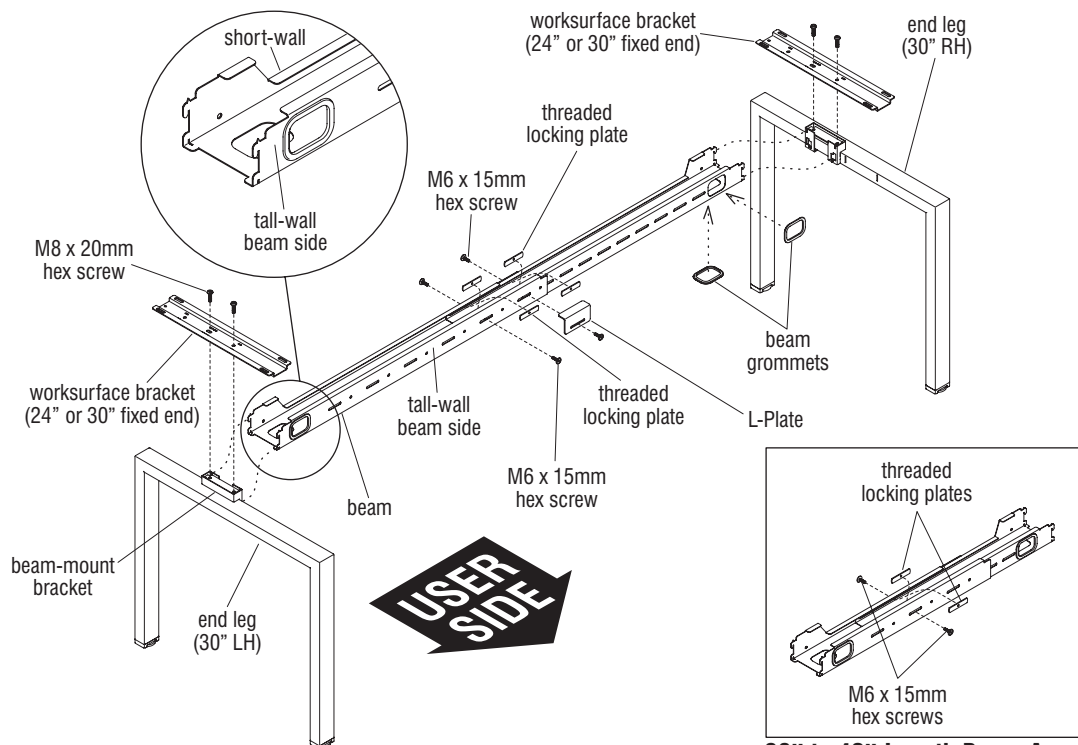
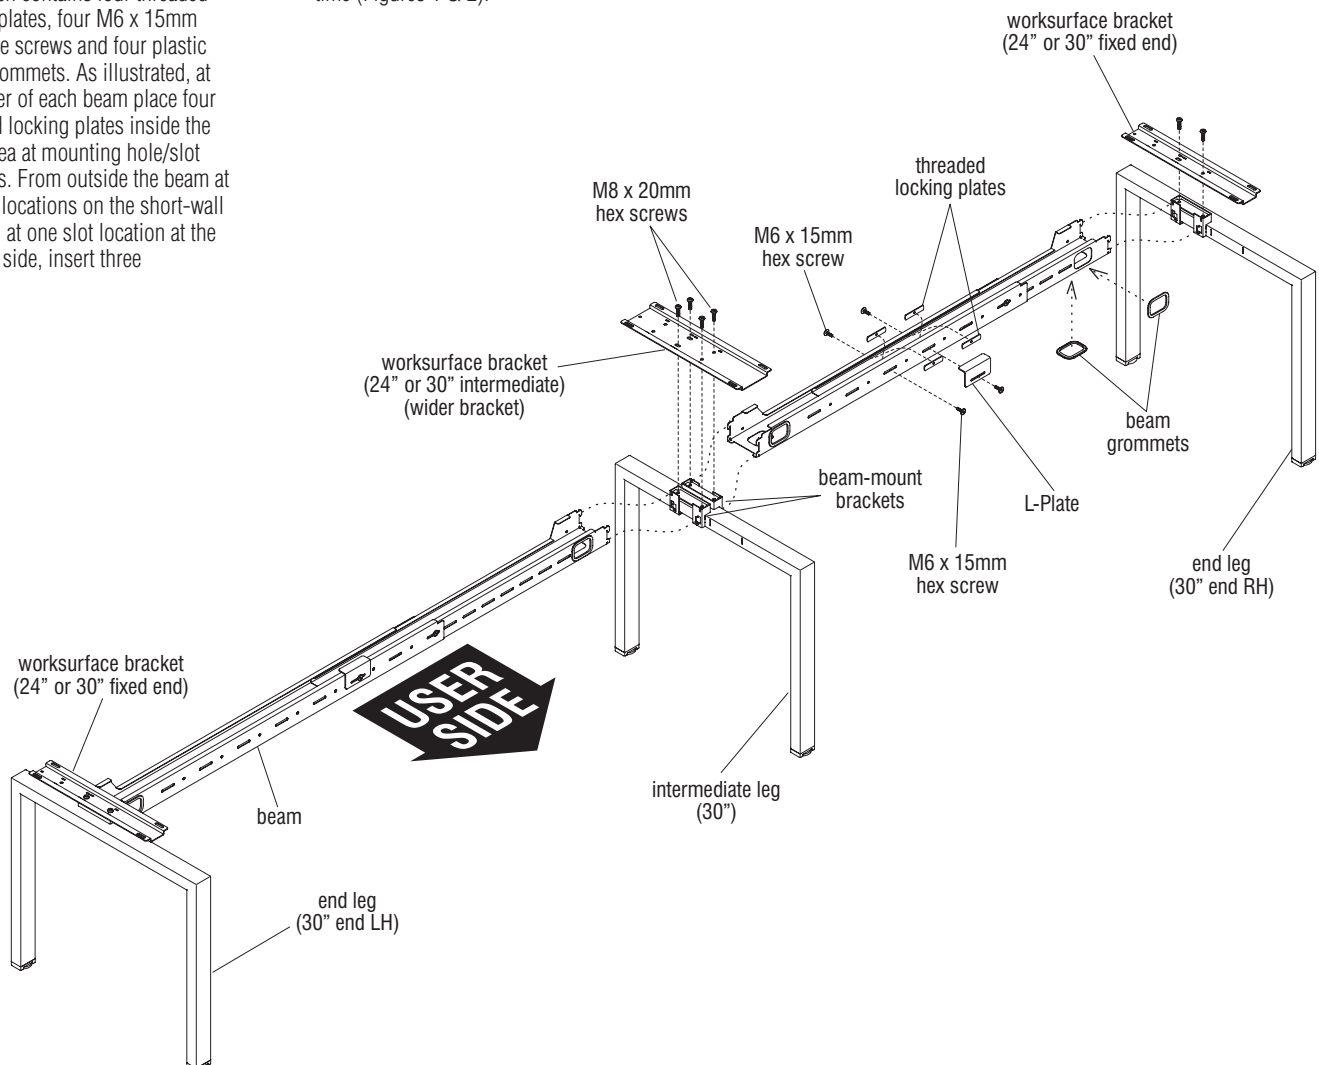

Figure 1 - Single-Sided Fixed Benching End Legs & Beams
Figure 2 - Single-Sided Fixed Benching, Multiple Worksurface "Adder" Legs & Beams
1. Carefully unpack Connection Zone components, review the space-planning layout and study Figures 1 & 2 to identify parts to assemble. Position all legs and beams onto the floor per the space-planning layout (Figures 1 & 2).
Note: Legs for 24" table depths (not shown) are non-handed, so can be used on either the right- or left-hand side. Legs for 30" table depths (right- & left-hand specific) will have off-center beam-mount brackets at the horizontal top. The longer horizontal member must be positioned toward the user side, as does each beam's tall-wall side (Figure 1).
hard-rubber mallet, tap down on the vertical wall at the mounting end of the beam until you hear the beam bottom-out, so it is properly nested in the support leg mounting bracket (do not hammer on the 1/2" formed top flange) (Figure 1).
Note: If installation requires intermediate legs with additional beams for multiple workspaces (as most do), see Figure 2 (next page) and follow step 3 below. All beams must be installed to intermediate and end legs before attaching workspace brackets.
Note: Figure 1 shows end legs only, with "fixed end" workspace brackets being installed. Figure 2 shows an intermediate workspace bracket (a wider bracket) installing to an "intermediate" leg (as well as "end" legs and end workspace brackets).
4. Install workspace brackets to the "beam-mount brackets" on the horizontal top of each leg. As illustrated, center the workspace bracket over the beam-mount bracket and secure using (two or four, depending on bracket) M8 x 20mm hex-drive screws (Figures 1 & 2).
Important: For beams that are 36" to 42" in length, no L-plate is required and only two threaded locking plates with two M6 x 15mm Torx screws are used (see inset detail, Figure 1).
To achieve the correct length, measure from the far outside end of one end leg to the far outside end of the opposite end leg, or to the center of an intermediate leg if an adder is used (Figures 1 & 2).
Important: The screws, when installed into holes and slots should allow at least $\frac{1}{4}$ " of side-to-side play, and be located nearest the ends of both inner and outer members to provide the greatest stability. Twist screws in only finger-tight at this time (Figures 1 & 2).
7. At both ends of the beam, on the tall-wall side and at the beam underside, install two plastic beam grommets into the wire-access holes, positioning the larger flange to the outside when nesting into place (Figures 1 & 2).